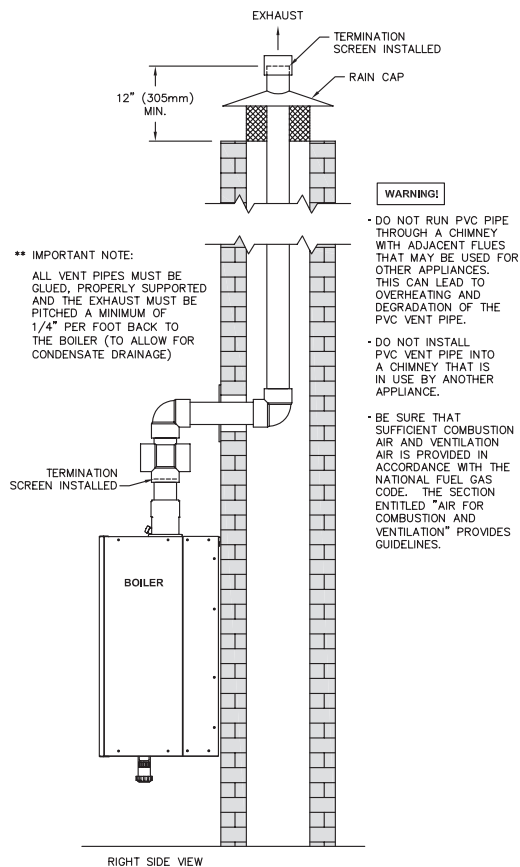

Figure 3.13: Venting with a Chimney Using Inside Air
g. Figure 3.13 shows an option for routing the exhaust through an unused chimney with the combustion air supplied from inside the building. Be sure to note the requirements for combustion air as listed under Section 1.D. "Combustion and Ventilation Air". These requirements are in accordance with the National Fuel Gas Code.